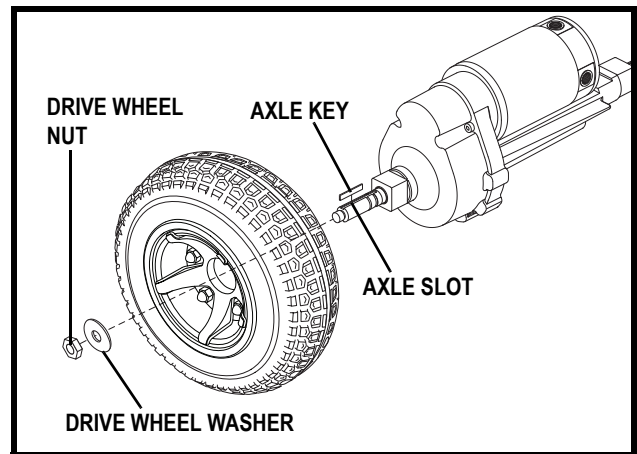

Figure 22. Drive Wheel Removal
4. Remove the drive wheel nut and washer from the axle. See figure 22.
9. Slide the wheel back onto the axle. Make sure that the axle key is in the axle slot. See figure 22.